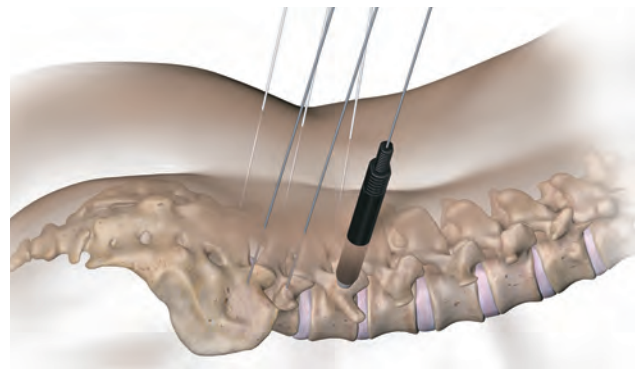

Figure 5
- Place the 1st stage dilator over the guidewire, and dock the dilator against the bony anatomy (Figure 5).
- Place the 2nd stage dilator over the 1st stage dilator and dock the dilator against the bony anatomy (Figure 5).